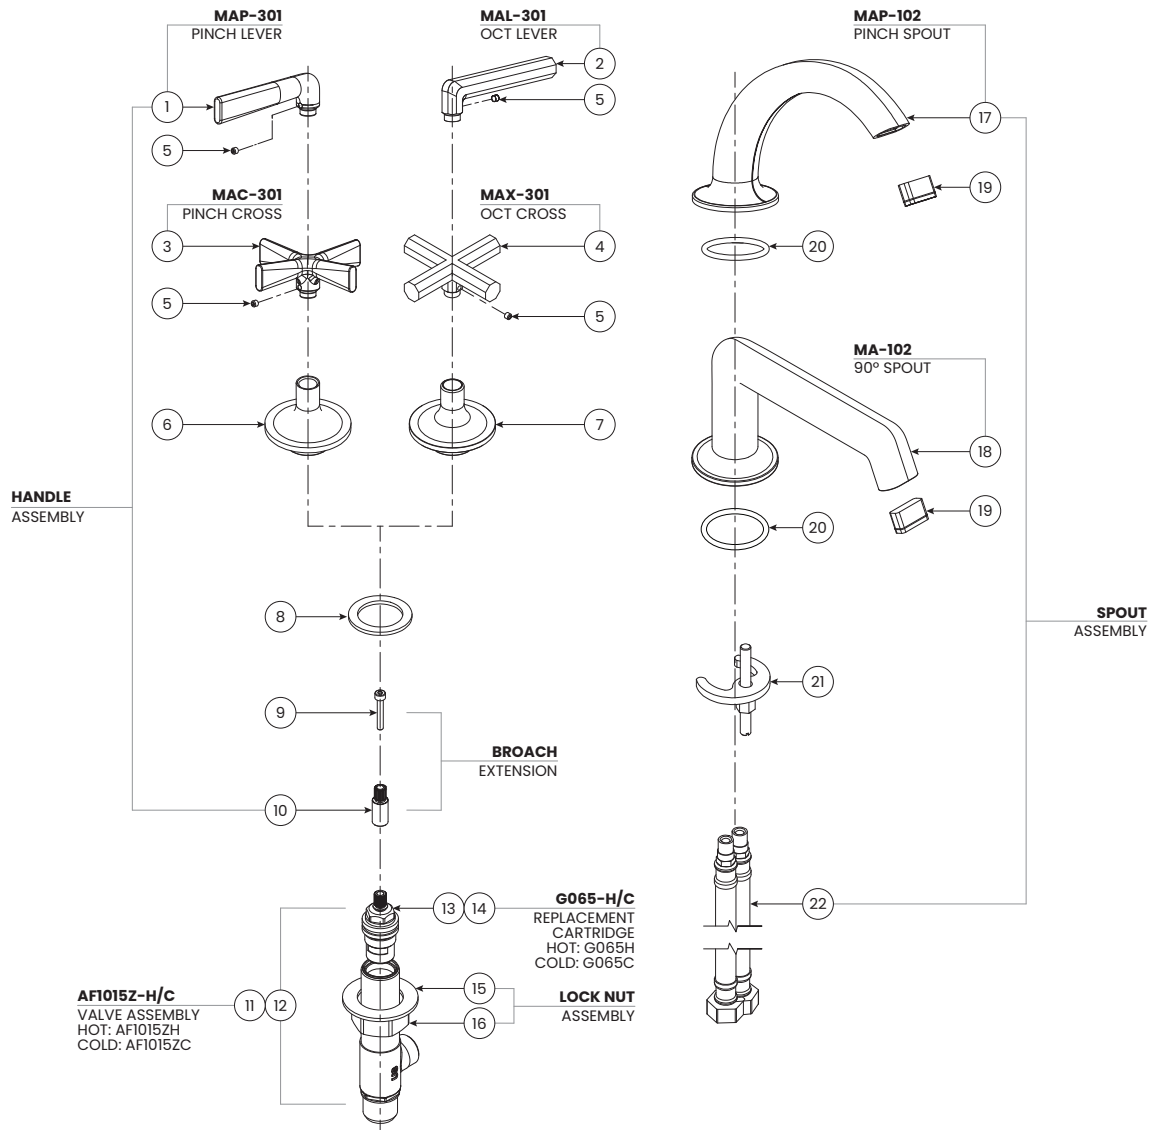

FIGURE 2.1 Assembly Diagram
- 2.2 Verify that all faucet parts are accounted for and match the faucet you purchased, according to the MA-100 Faucet Item Codes on Page 1. See also Figure 2.1, Assembly Diagram, and Table 3.1, Assembly Parts.